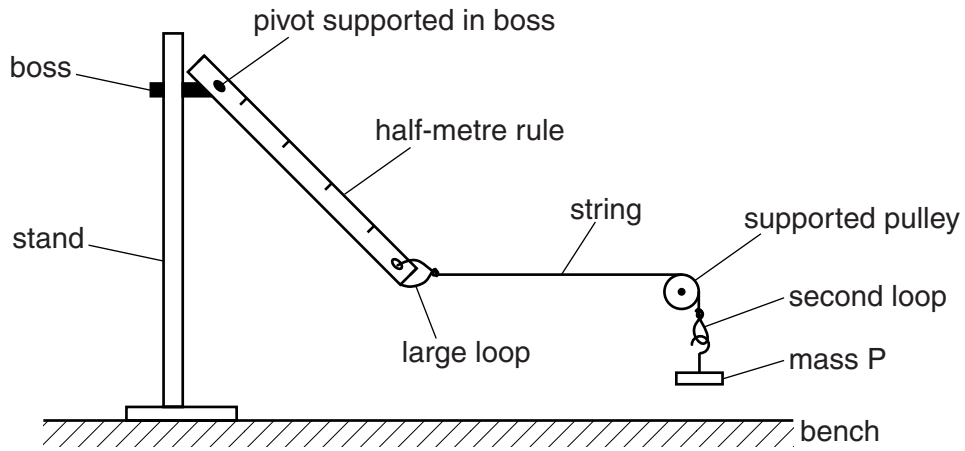

Fig. 1.1
4. One end of the thin string should be passed through the hole at the 49.0 cm mark and tied to the half-metre rule by creating a large loop at the end of the string. A second loop should be tied at the other end of the string. Supervisors should ensure that the knots do not slip. The **candidate** will pass the string over the pulley wheel and suspend the mass from the second loop, as shown in Fig. 1.1.
6. The Supervisor should pass the pivot through the hole at the 1.0 cm mark on the half-metre rule with the scale facing the candidate. If a nail is used, the pointed end of the nail should be held in the boss. In this way the head of the nail will prevent the rule falling off the nail. The **candidate** will then set up the remainder of the apparatus as shown in Fig. 1.1.